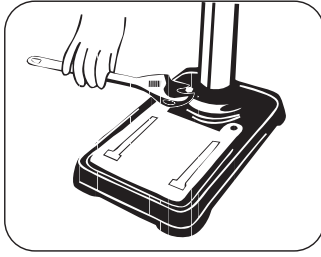

FIGURE 8.3
- Fix the column using the bolts supplied (Figure 8.3)